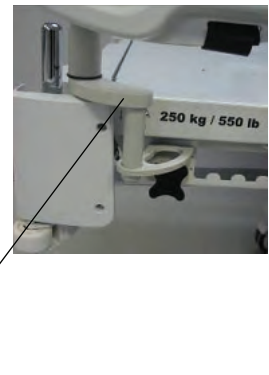

Figure 128: Installing the tray support
4. Install the tray support pole into the bracket (F) and into the socket at the head end or foot end of the product (Figure 128 on page 109).